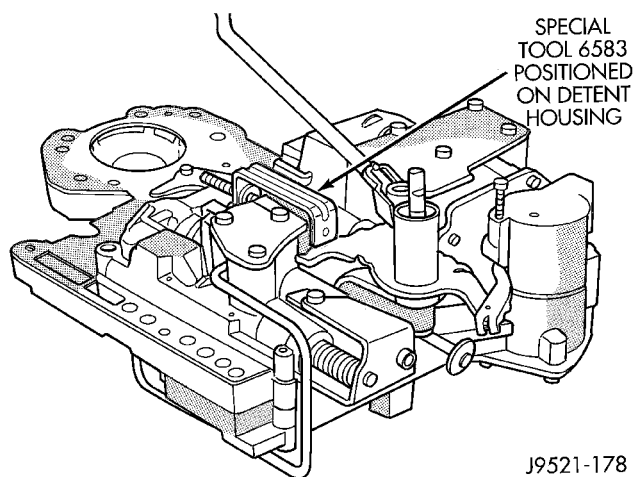

Fig. 86 Detent Ball Spring
- (1) Install boost valve, valve spring, retainer and cover plate. Tighten cover plate screws to 4 N·m (35 in. lbs.) torque.
- (2) Insert manual lever detent spring in upper housing.
- (3) Position detent ball on end of spring. Then hold detent ball and spring in detent housing with Retainer Tool 6583 (Fig. 86).
- (4) Install throttle lever in upper housing. Then install manual lever over throttle lever and start manual lever into housing.
- (5) Align manual lever with detent ball and manual valve. Hold throttle lever upward. Then press down on manual lever until fully seated. Remove detent ball retainer tool after lever is seated.
- (6) Then install manual lever seal, washer and E-clip.